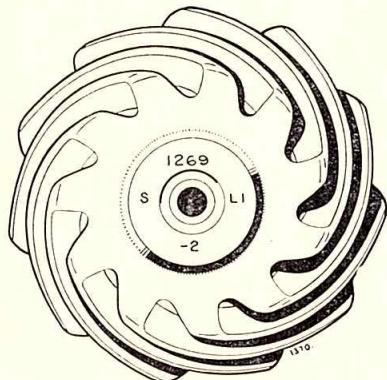
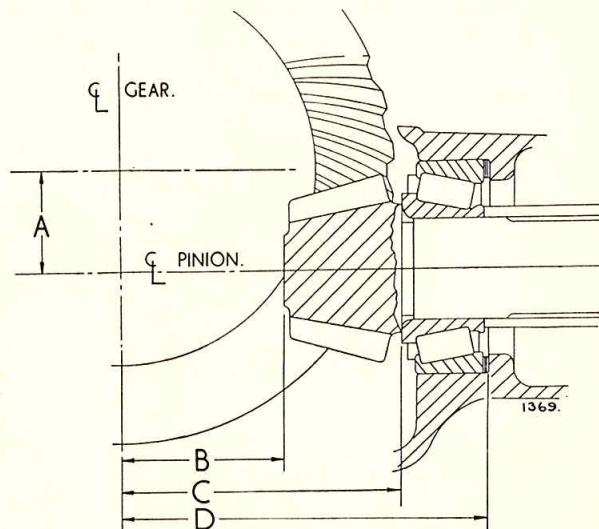

Fig. 14. Pinion setting marks.
Fig. 15. Pinion setting distances.
The correct pinion setting is marked on the ground end of the pinion as shown in Fig. 14. The matched assembly serial number at the top is also marked on the drive gear, and care should be taken to keep similarly marked gears and pinions in their matched sets, as each pair is lapped together before despatch to the factory. The letter on the left is a production code letter and has no significance relative to assembly or servicing of any axle. The letter and figure on the right refer to the tolerance on offset or pinion drop dimension "A" in Fig. 15 which is stamped on the cover facing of the gear carrier housing. When ordering spares, specify the offset required if the best performance is to be obtained. Thus, L.1 carrier requires L.1 gears or H.2 carrier requires H.2 gears.
The number at the bottom gives the cone setting distance of the pinion and may be Zero (0). Plus (+) or Minus (—). When correctly adjusted, a pinion marked Zero will be at the zero cone setting distance, dimension "B" in Fig. 15 from the centre line of the gear to the face on the small end of the pinion; a pinion marked Plus two (+2) should be adjusted to the nominal (or Zero) cone setting plus .002", and a pinion marked Minus two (—2) to the cone setting distance minus .002".
The zero cone setting distance ("B" Fig. 15) for the various axles are given below.